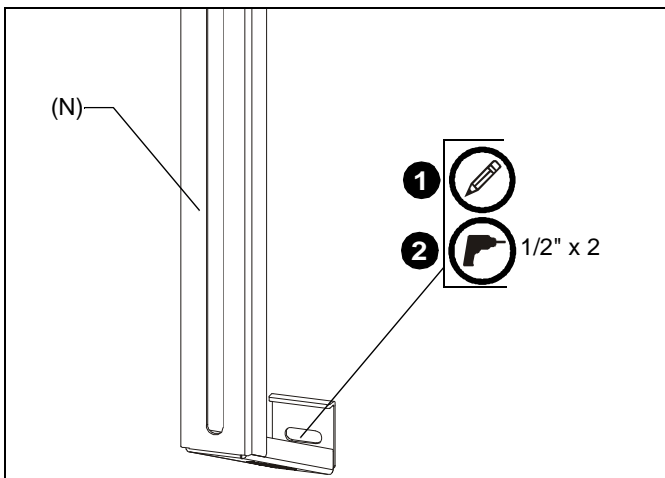

Figure 15
1. Mark the wall over steel stud or drywall through the fixed wall leg (N) on each upright assembly (D). (See Figure 15)
2. Drill one 1/2" hole at each marking. (See Figure 15)